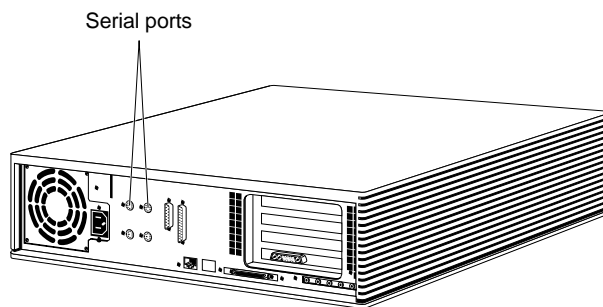

Figure 5-13 Locating the Serial Ports on the Back of the Indigo² Chassis
2. Locate the serial ports on the back of the Indigo² chassis, as shown in Figure 5-13.